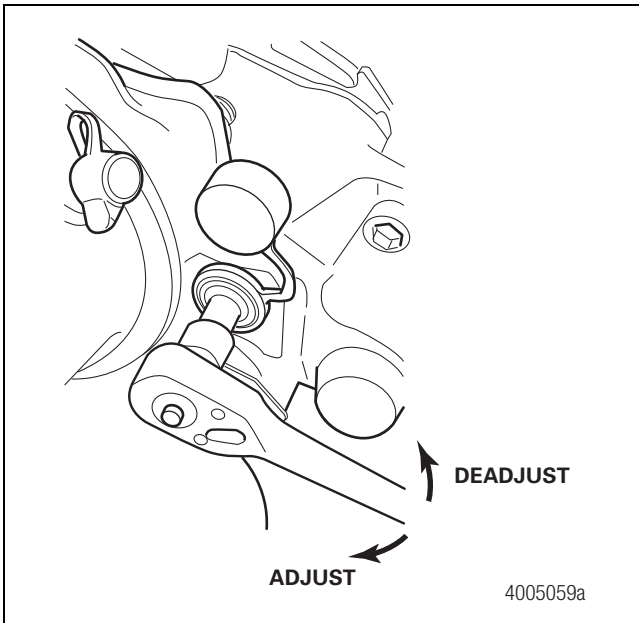
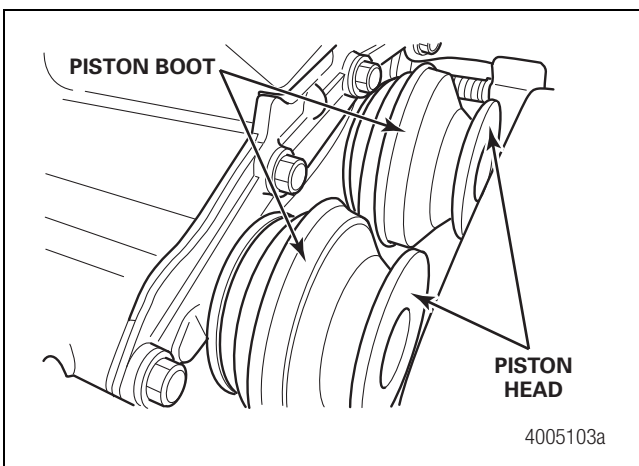

Figure 6.13
Figure 6.14
3. Use a 10 mm wrench to rotate the manual adjuster stem CLOCKWISE until the piston assemblies are extended approximately two-inches (50 mm). Figure 6.13 and Figure 6.14.